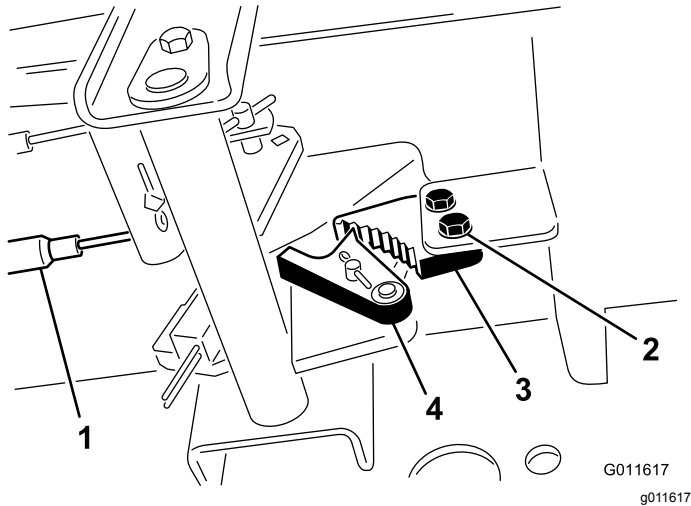

Figure 96
1. Loosen the 2 screws securing the parking-brake pawl to the frame (Figure 96).
2. Press the parking-brake pedal forward until the brake detent completely engages on the brake pawl (Figure 96).